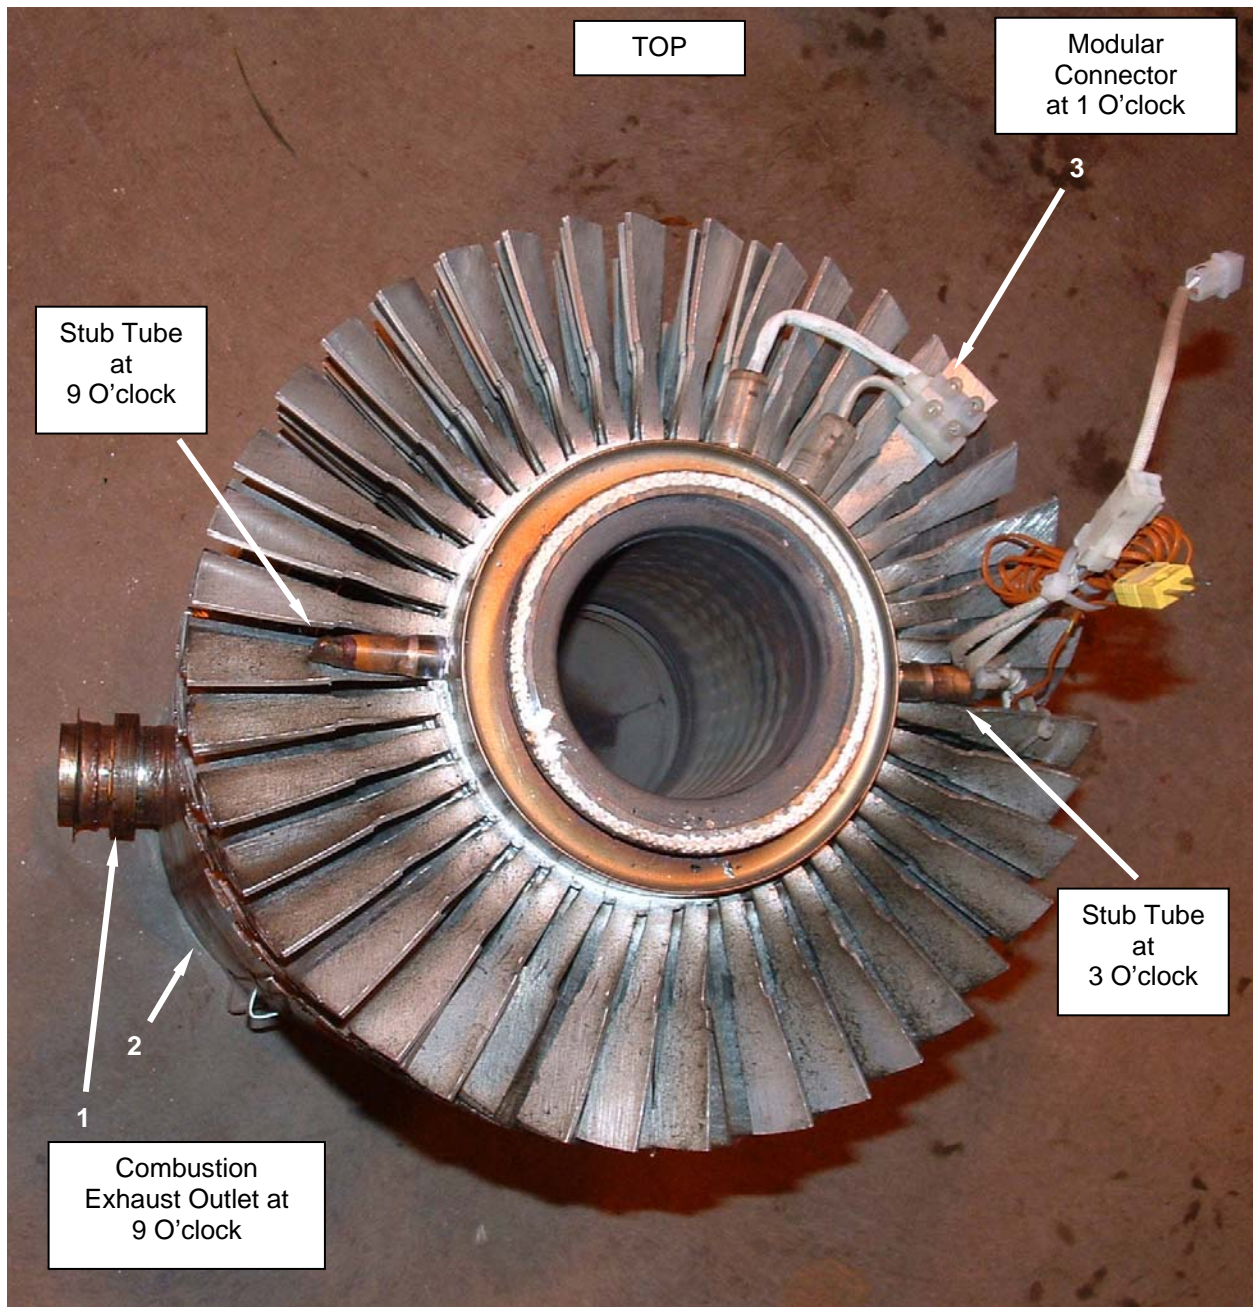

Figure 12. Install the Thermoelectric Generator – Heat Exchanger/TEG Alignment.
Refer to Figure 12 for the correct alignment of the TEG. Take note of the relative positions of the TEG modular electrical connections (at 1 o'clock), the stub tubes (at 3 o'clock and 9 o'clock respectively) and the combustion exhaust outlet (at 9 o'clock).
2. While positioning the combustion exhaust outlet (**Figure 12, Item 1** of the heat exchanger (**Figure 12, Item 2** at the 9 o'clock position, position the modular connector (**Figure 12, Item 3** at the 1 o'clock position. Align the flanges of the TEG (**Figure 13 Item 1**) and the heat exchanger.